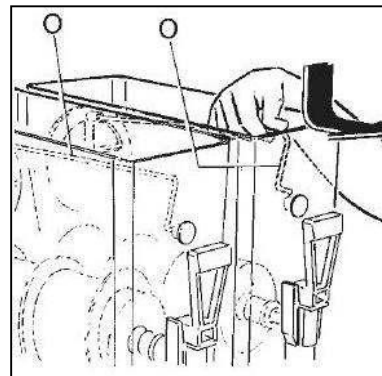

Fig. 20
- Reassemble the upper mixing unit (O) so that its toothed crown is aligned with the lower crown. This will allow the front pin to fit perfectly into its fixed position on the bowl (see figure 20).